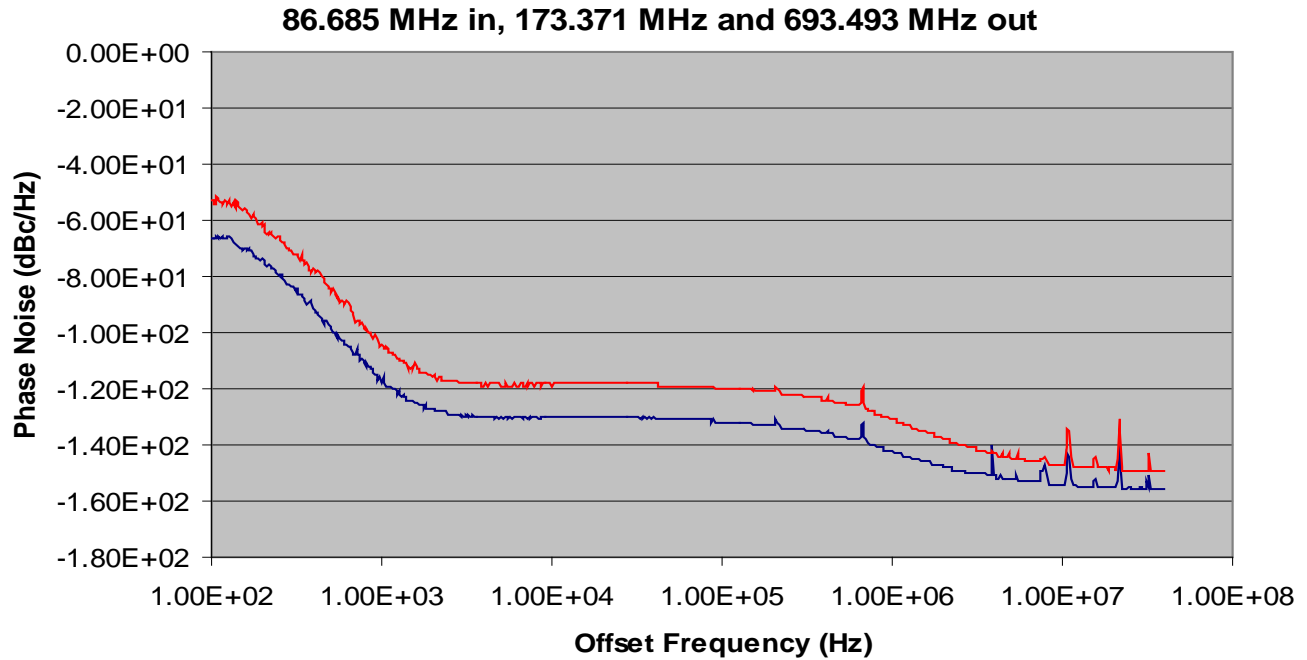

**Figure 76. 78.125 MHz In; 693.493 MHz Out**
**Table 65. Jitter Values for Figure 76**